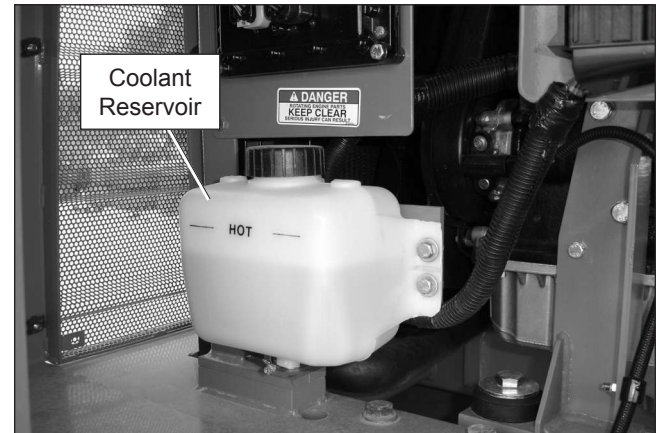

Figure 7.2 – Engine Compartment
Visually inspect the engine and its components with the engine off. The engine is located behind the doors at the front of the machine (refer to Figure 7.2).
Cummins, Ford and GM engines are liquid cooled (refer to Figure 7.2).
1. Inspect the radiator hoses and clamps for wear, leakage, or damage (refer to Figure 7.2).